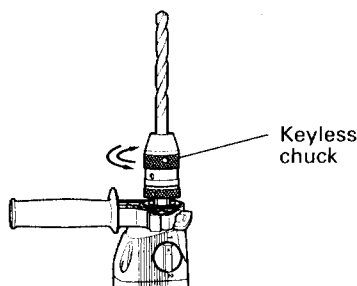

Fig. 3
**For keyless chuck (Fig. 3, 4)****(1) Mounting the bit**